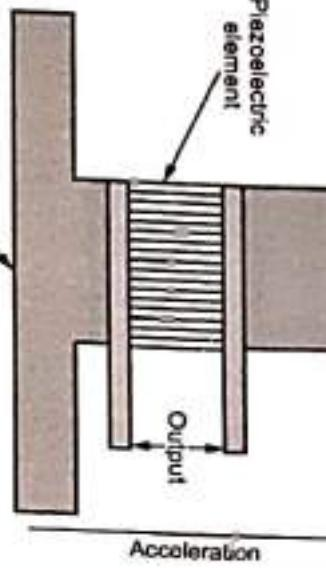

Fig. Q.15.1 Piezoelectric Accelerometer
- Fig. Q.15.1 shows the working and the basic arrangement for piezoelectric accelerometer.